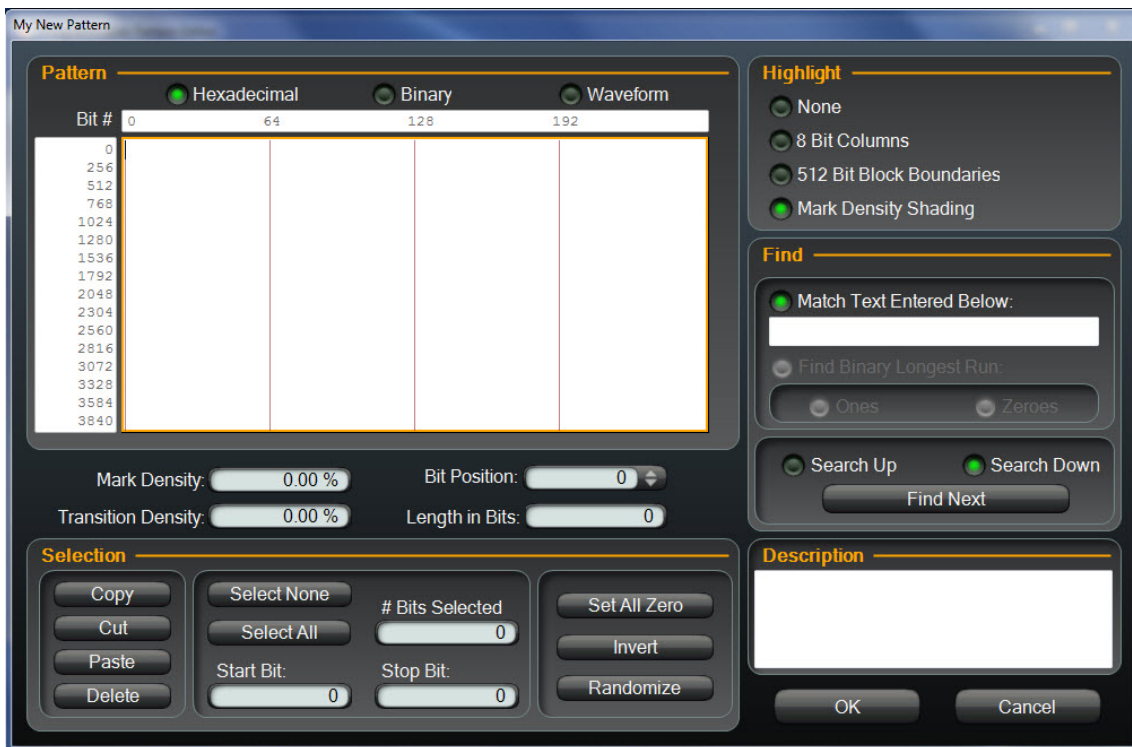

Figure 66. Insert new pattern
3. Click on the ... button located to the right of the text box to access the screen shown in Figure 66.